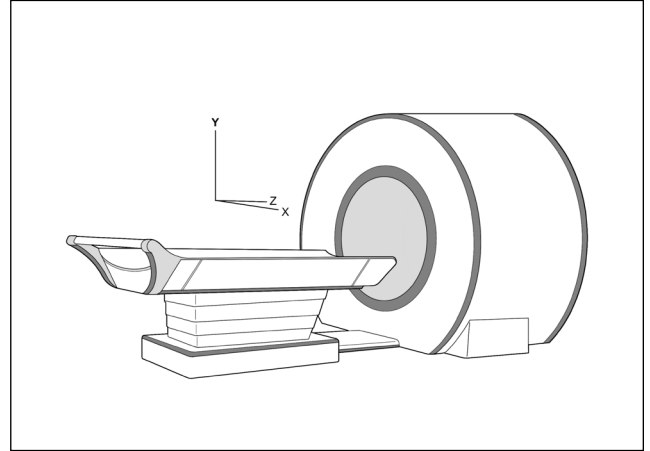

Fig. 43
1. Verify the cradle can travel the full length of the “Z” axis without issue. Repeat for both mechanical and manual movement (Fig. 43).
3. Verify the cradle can travel the full height of the ‘Y’ axis without issue (Fig. 43).